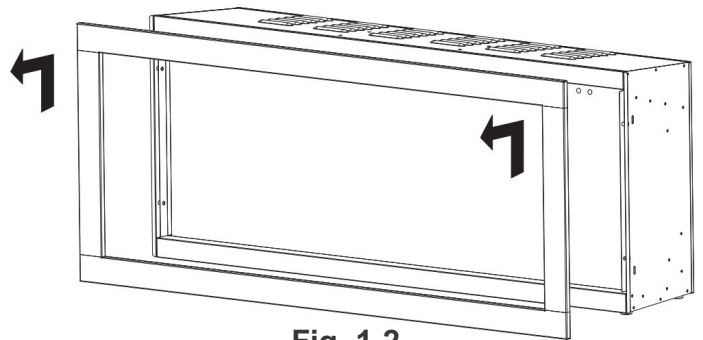

Fig. 1-2
- Carefully lift the front trim up and away from the appliance (Fig. 1-2 ). Place it face down on a soft, non-abrasive surface.